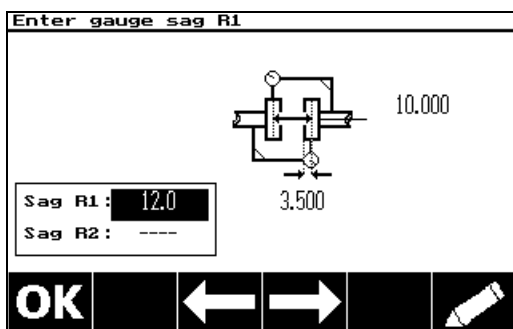

Figure 10
9) Now key in the sag values for the R1 and R2 indicators, confirming each of them with , and then press . (See Figures 10 and 11).